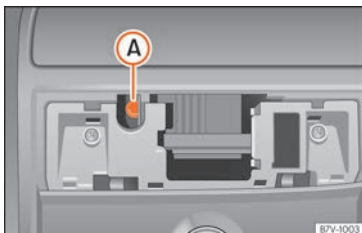

Fig. 18 Allen bolt to close the panoramic sliding sunroof
- Insert a standard 4 mm Allen key¹⁾ into the Allen bolt »» Fig. 18 (A).